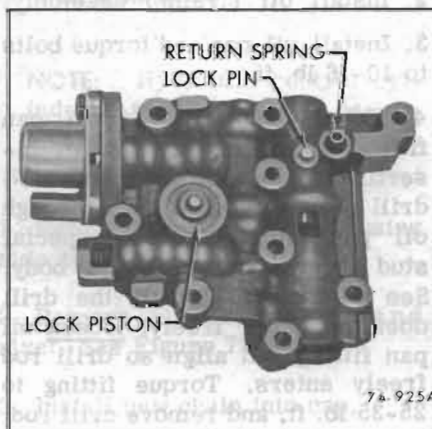
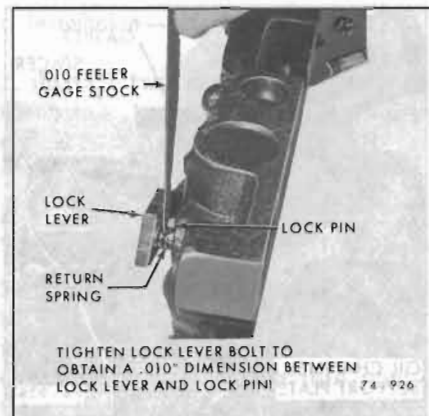

Figure 75-925—Installing Lock Piston, Lock Pin and Return Spring
Figure 75-926—Tightening Lock Lever Bolt
3. Install lock piston, lock pin, return spring, (see Figure 75-925). Install lock lever and bolt. Tighten bolt to obtain dimension shown in Figure 75-926.